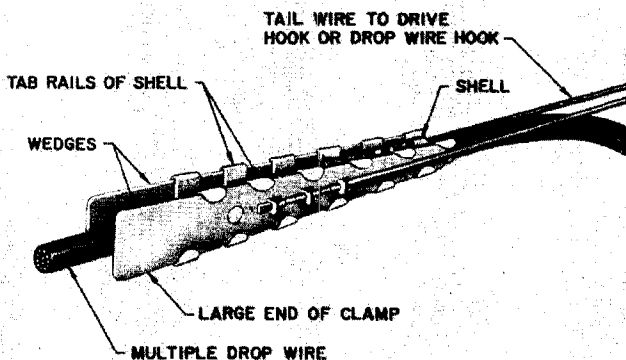

Fig. 3 — Complete Assembly of Clamp on Wire
- (1) Interlock the two shells on the wire with the large ends toward the span.
- (2) Press the shells together and slide the wedges into the tab rails on the sides of the shells. Tap the wedges with pliers to seat them firmly.
- (3) Place the tail wire over the drive hook or drop wire hook.
- (4) Complete assembly of clamp on wire is illustrated in Fig. 3.